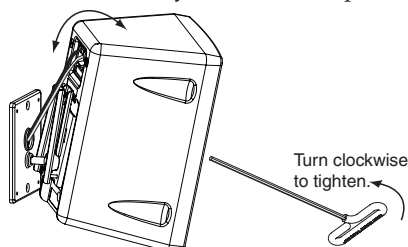

Figure 13 — Adjusting speaker and locking in place
5. Insert the hex tool into the locking access, and slightly loosen the hex cap screw. Adjust the speaker to the desired angle (see figure 13), and torque the hex cap screw down clockwise until snug, about 6 to 8 turns. The speaker remains securely in the desired position.